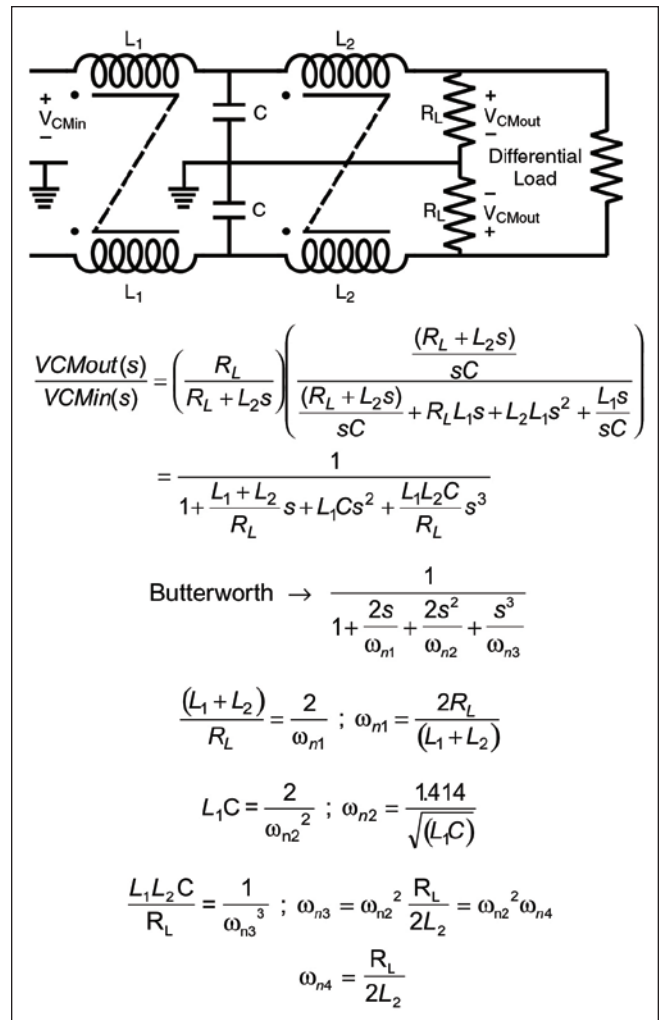
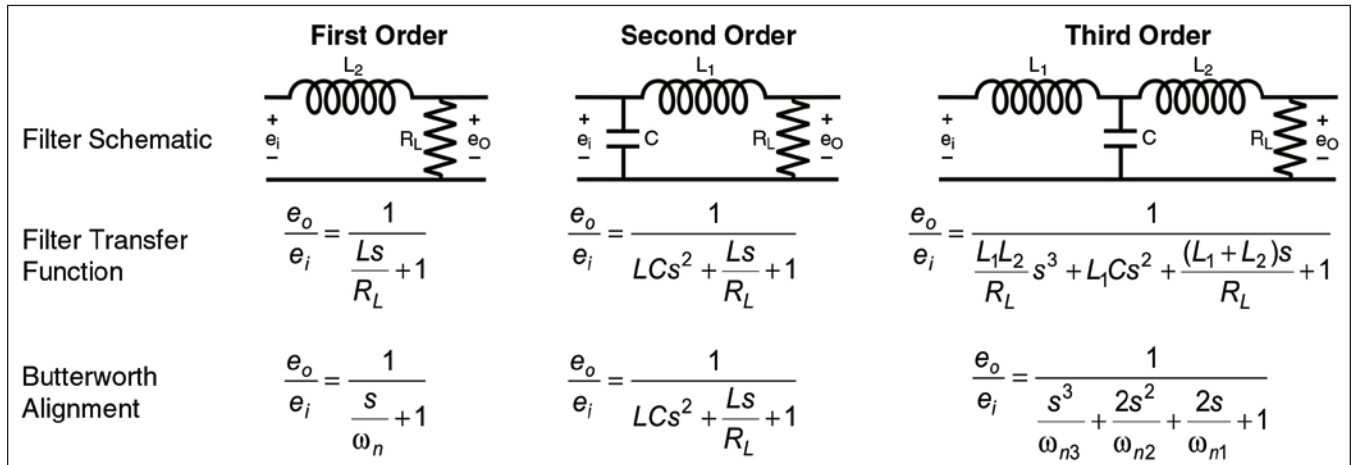

Figure 6: Analysis of a third order (three pole) low pass filter where ω₁, ω₂, and ω₄ occur at the same -3dB frequency of ω₀
Figure 7: The first three order low pass filters and their Butterworth alignments
The design of a generic filter is readily accomplished by using standard alignments such as a maximally flat alignment (also known as a Butterworth alignment). Figure 6 shows the general analysis and component relationships to the Butterworth alignments for a third order low pass filter. Butterworth alignments provide an inherent z of 0.707 and a -3 dB point at the crossover frequency. The Butterworth alignments for the first three orders of low pass filters are shown in Figure 7.
5. The resulting filter configuration is that of Figure 6 with: